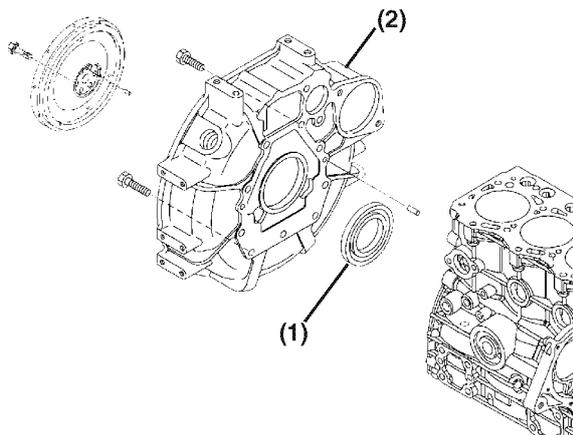

Figure 6-62
- Remove the rear oil seal (**Figure 6-62, (1)**) from the flywheel housing (**Figure 6-62, (2)**).
- Apply a continuous bead of ThreeBond Liquid Gasket No. 1212, Yanmar Part No. 977770-01212 to the outside diameter of a new oil seal (**Figure 6-62, (1)**).
- Install a new seal in the flywheel housing (**Figure 6-62, (2)**) with the lip facing in away from the flywheel. Apply lithium grease to the lip of the seal.